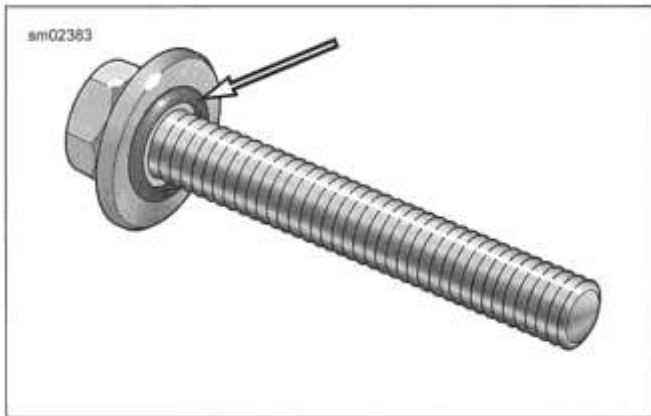

Figure 5-28. Primary Chaincase Sealing Screw
- d. See Figure 5-28. Install **new** sealing screws.